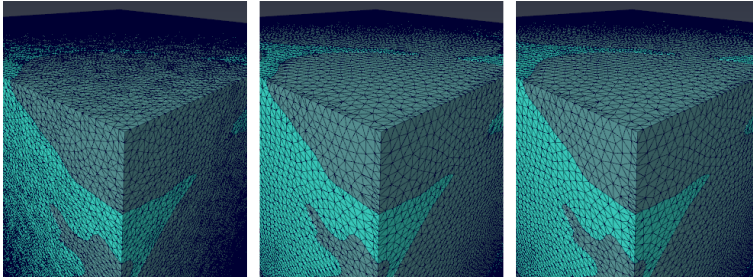

Figure 5.26: From left to right: initial surface, fix contours remeshing, remeshing around contours only.
- Run the remesher (see Figure 5.26).